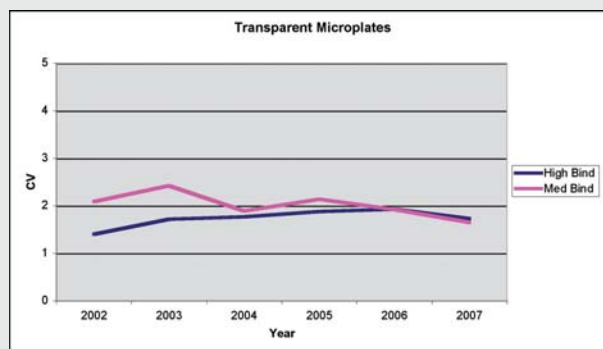

Figure 7: Coefficient of variation (CV) of all tested raw material batches from 2002 to 2007 for transparent microplates (med. and high binding)
- For intra-plate homogeneity the coefficient of variation (CV) must not exceed 5% for colorimetric or 10% for fluorescence and luminescence assays.
The main criterion for our immunological products is a stable coefficient of variation (CV) from batch to batch which is monitored over a long period (Fig. 7).